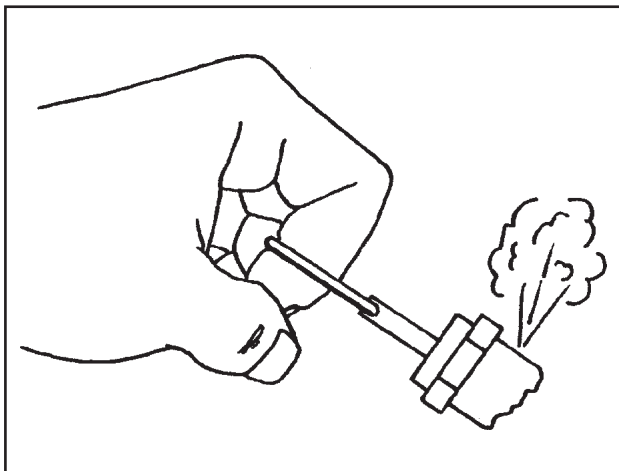

Fig. 3-19 Checking Pressure Relief Valves & Relieving System Pressure
Step 2) Tanks subjected to freezing temperatures may contain ice. Store the compressor in a heated area before attempting to drain moisture from the tanks. Reduce the air pressure in the tank to 30 PSIG by pulling the pressure relief valve ring (refer to **Fig. 3-19, Checking Pressure Relief Valves & Relieving System Pressure**).